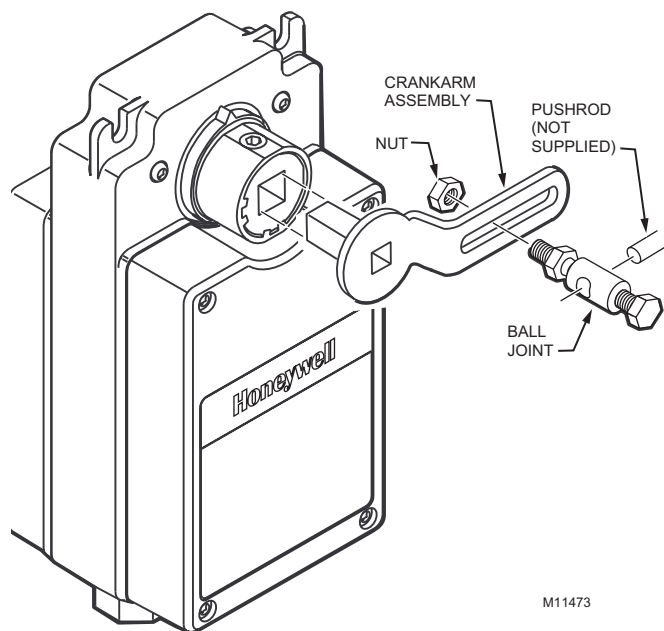

Fig. 1. Attaching the 205830A Crankarm Kit to the actuator.
1. Slide the crankarm assembly into the actuator output hub (see Fig. 1) and secure with the two 8 mm hub set screws. Maximum tightening torque is 100 lb-in.